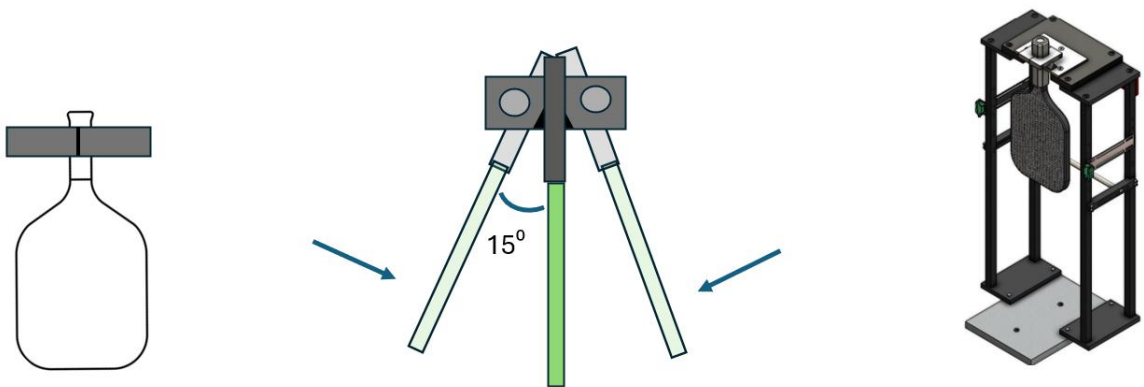

Figure 3
4. Obtain Moment of Inertia (MOI) Value for Paddle (refer to Figure 3)